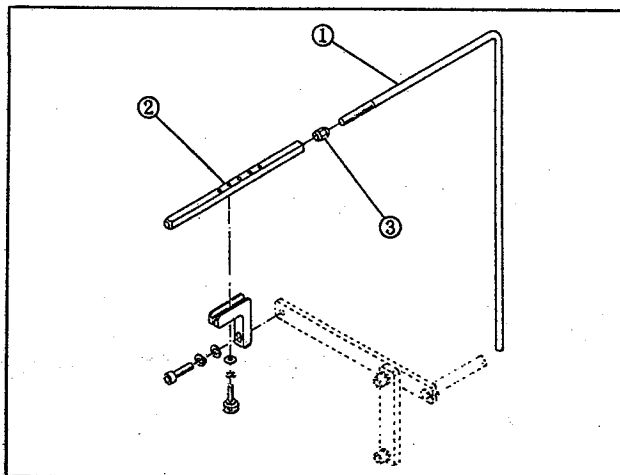

Fig. 3
3. INSTALLING STACKING BAR ASSEMBLY (Fig.3)